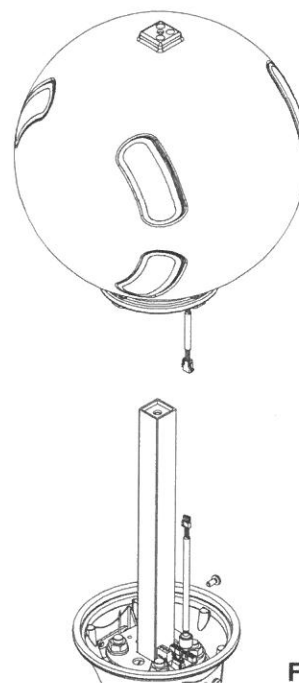

Fig. 2
- A. Before fitting the beacon it will be necessary to remove the old globe by removing the Tri-head screw at the top of the globe and sliding the globe up and off the Support Mast. (See Fig. 2)